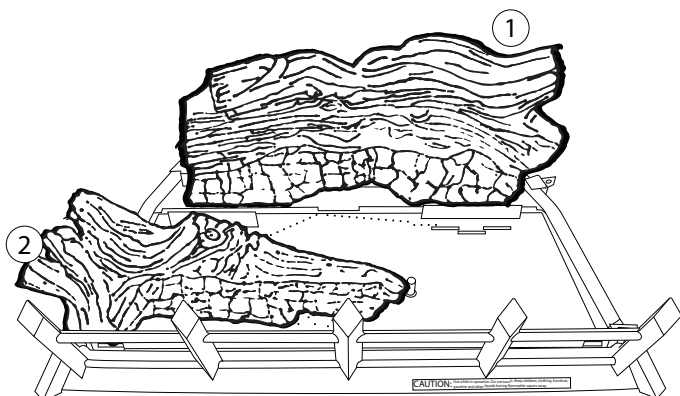

Figure 6.28 - Log #2 Placement
2. Place the front left log (#2) on the pin located on the right side of the burner. See Figure 6.28.